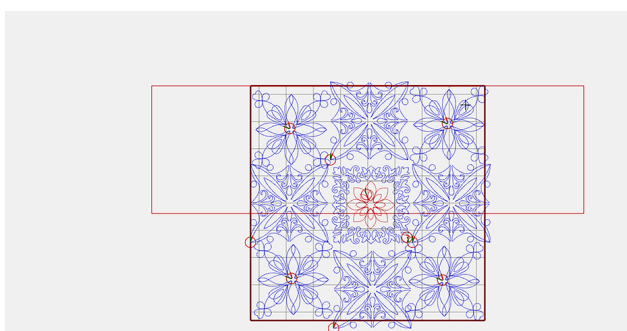

Fig. 75
15. Using touch gestures on-screen, resize the Celia design to a size that fits inside the BD394.bqm and is pleasing (Fig. 75).